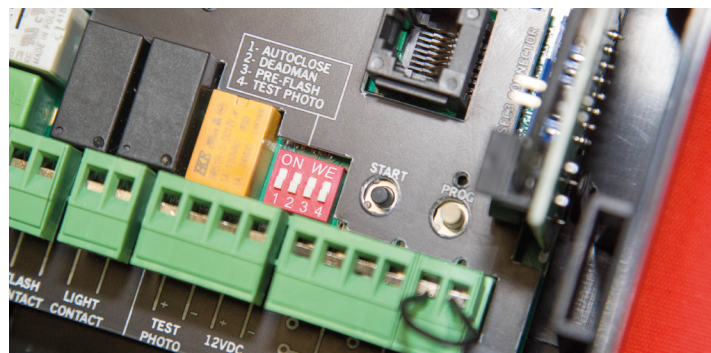

fig.10
- 2** Press and hold the white "PROG" button on the main receiver board for 2 seconds until the red LED lights up and stays on, this is next to the start button (**fig.10**).
- 3** Press & release the "START" button (next to "PROG" button) (**fig.10**) the receiver box will now start a setup process.
- (1)** The curtain will open slightly and close again.
- (2)** The curtain will then open and fully stop.
- (3)** Press & release the "START" button again (**fig.10**) and the curtain will close fully.
- (4)** Wait for several seconds and the "PROG" light will turn off.